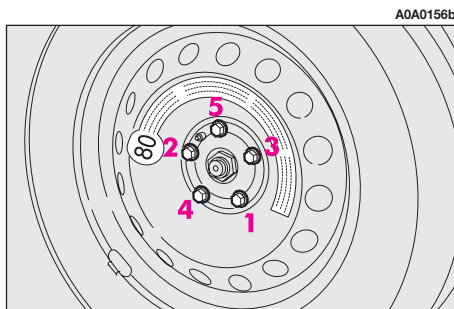

fig. 8
– Using the wrench provided, fully tighten the bolts in the sequence shown in **fig. 8**.
– Using the wrench provided, fully tighten the bolts in the sequence shown previously for the compact spare wheel **fig. 8**.
– Using the wrench provided, tighten the bolts in the sequence shown previously for the compact spare wheel **fig. 8**.